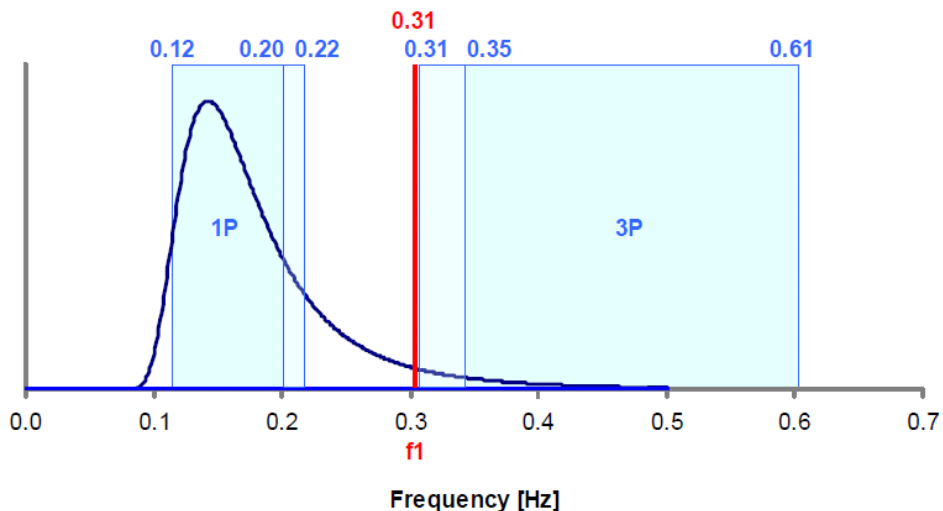

Figure 3 - OC4 rotor frequency (4).
This gives three possible design philosophies for the tower. Either a design which is stiffer than both 1P and 3P, i.e. a stiff-stiff design, a design that is softer than both, soft-soft. Or a design which is between 1P and 3P, a soft-stiff design. The OC4 jacket is of the third design with a first eigenfrequency of approximately 0.31Hz (4). Using a 10% safety factor on the frequencies puts the structure in the upper range of the allowable range for a soft-stiff design (5). This is illustrated in figure 3.